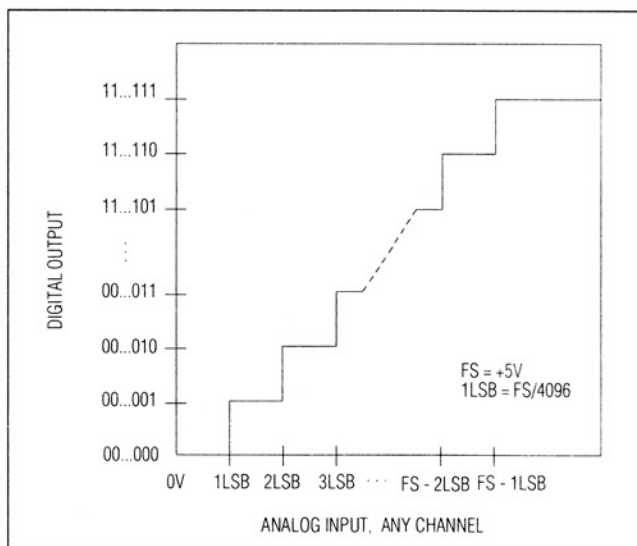

Figure 12. Ideal Input/Output Transfer Characteristic for Unipolar Circuit of Figure 11
input/output transfer characteristic and transition points for this input signal range are demonstrated in Figure 12 and Table 1. The MX7582 transfer characteristic transition points occur on integer multiples of 1LSB. The output code is natural binary, with: 1LSB = (Full Scale (FS)) / 4096 = (5/4096)V = 1.22mV.